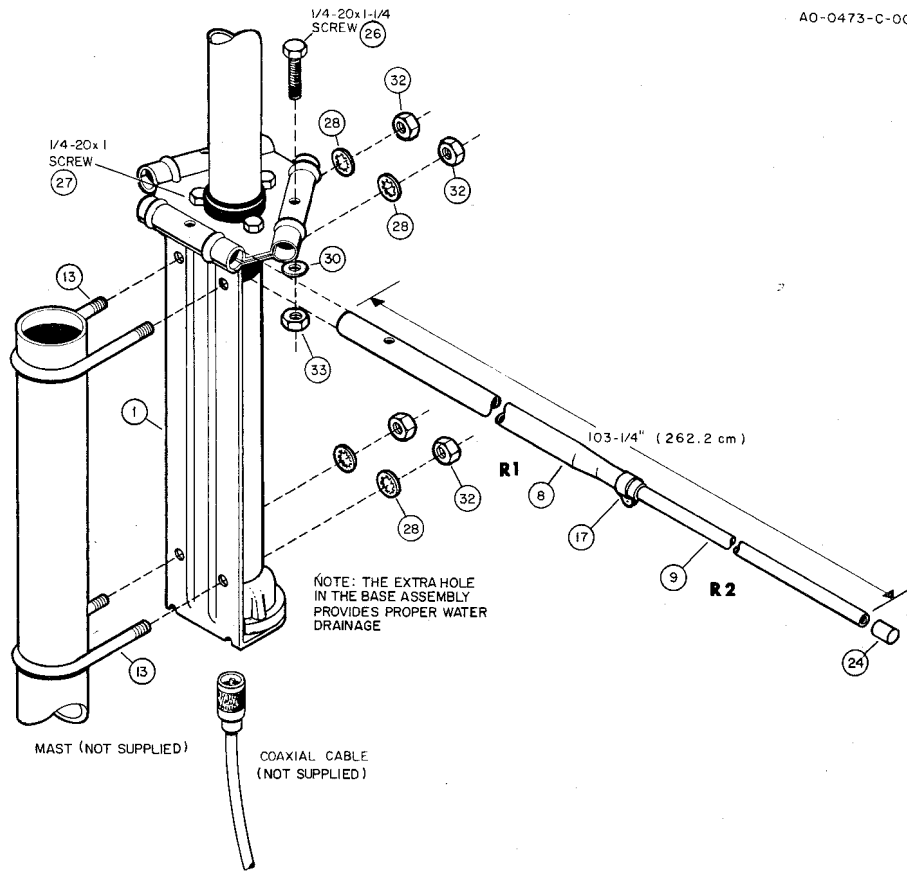

Figure 7
Select the R1 and R2 sections (items 8 and 9) and the three remaining $\frac{1}{2}$ " compression clamps (item 17). Slip a compression clamp on the swaged end of the R1 radials (item 8). Slip on the end of the R2 tube (item 9) and measure each radial to see that you have 103 $\frac{1}{4}$ " as shown in Figure 7. Tighten the $\frac{1}{2}$ " compression clamp. Install a $\frac{7}{16}$ " caplug (item 24) on the end of the R2 sections.
Mount to the mast using the $\frac{5}{16}$ " U-bolts in the pairs of holes near each end of the bracket. The middle pair of holes will not be used. Refer to Figure 7.